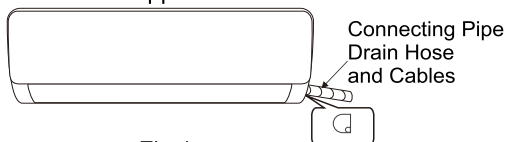

Fig 1
- Depending on the position of the unit, the piping may be routed sideway from the left or the right ( Fig 1 ), or vertically from the back( Fig 2 )(depending on the pipe length of the indoor unit). In the case of sideway routing, cut off the outlet cutting stock of the opposite side.